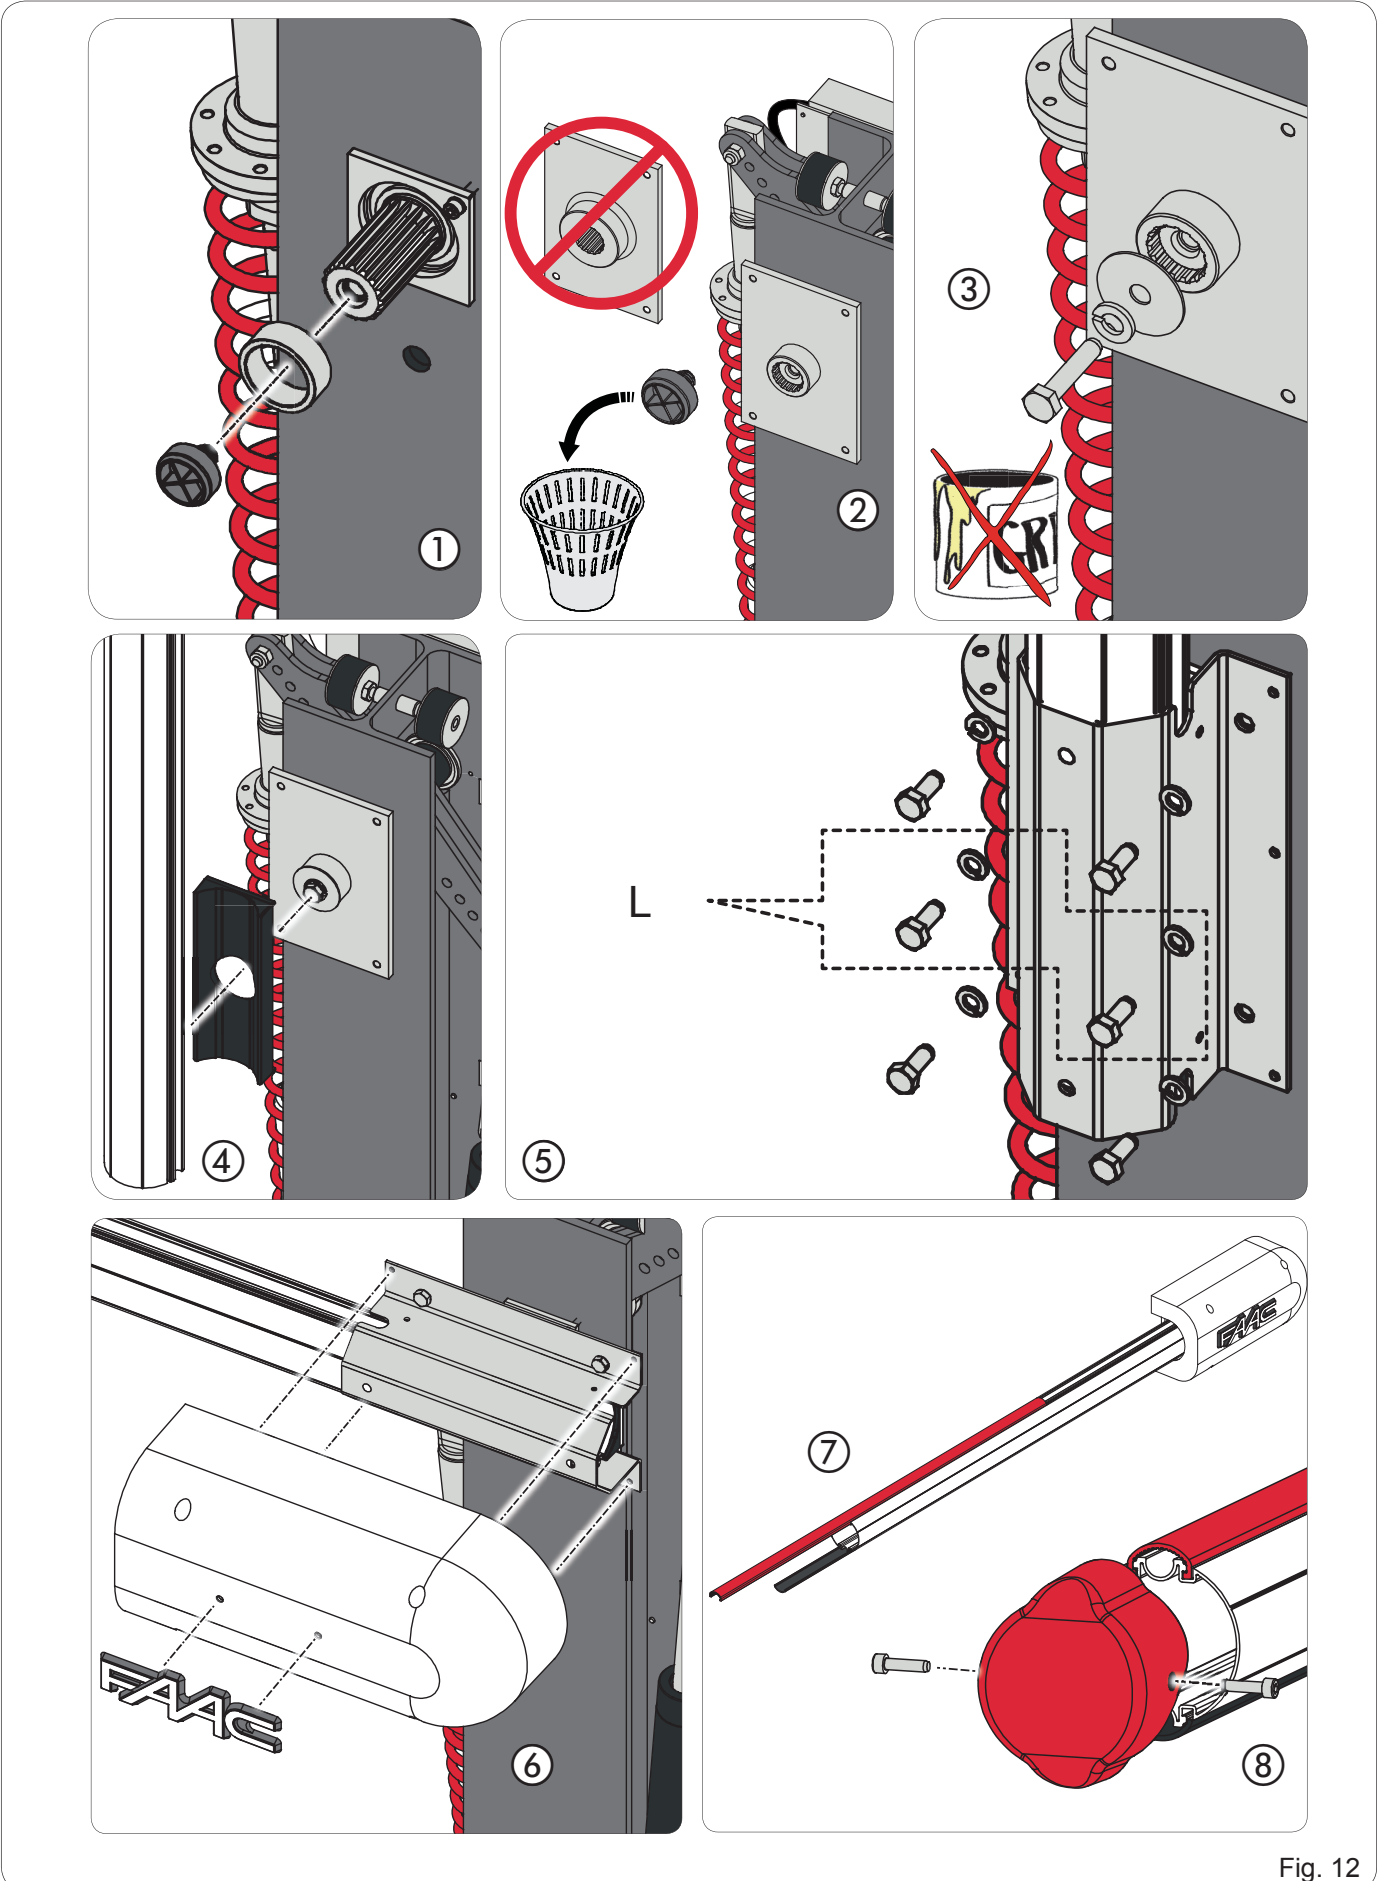

Fig. 12
- Install the arm bracket and the arm as shown in the sequence in Fig. 12 from ① to ⑧ using the supplied screws. (the rubber profile of the arm must face down)
- Remove the arm referencing Fig. 12
- Reinstall the arm following the instructions in Fig. 12.